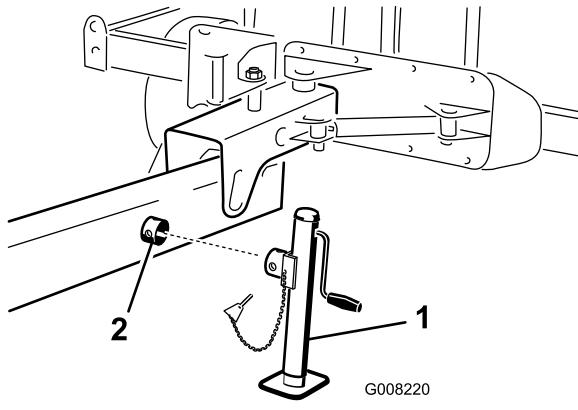

Figure 10
1. On the side of the tow hitch, slide the jack onto the jack tube (Figure 10).
2. Rotate the jack stand to align the holes and secure with the lynch pin (Figure 10).